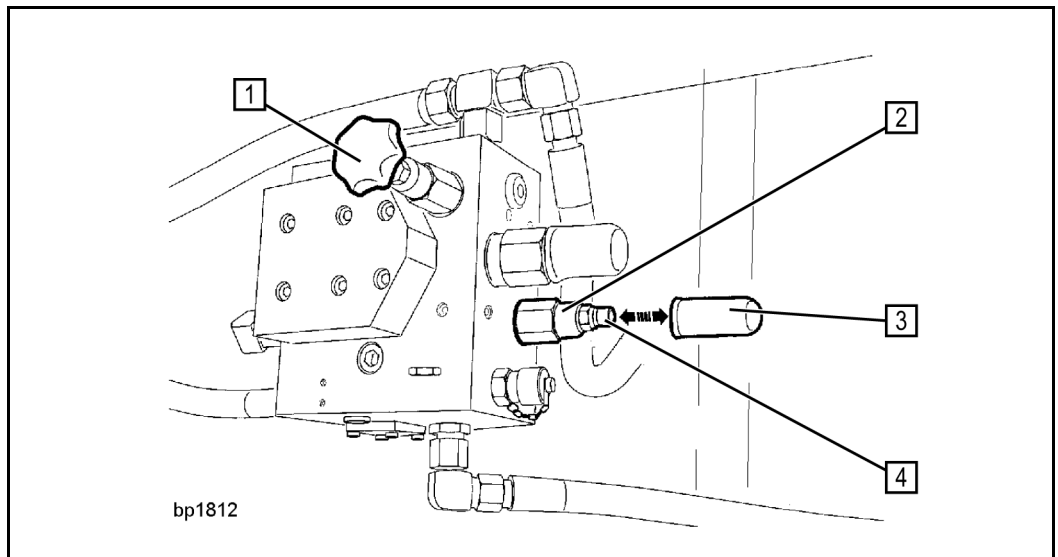

Fig. 103
If hard, loud switching noises from the rock valve become apparent during operation, screwing in the adjustment spindle (4) (**Fig. 103**) can dampen the limit stop further.
- Remove the protecting cap (3) (**Fig. 103**) above the adjustment spindle (4) (**Fig. 103**).
- Loosen the lock nut (2) (**Fig. 103**) on the adjustment spindle.